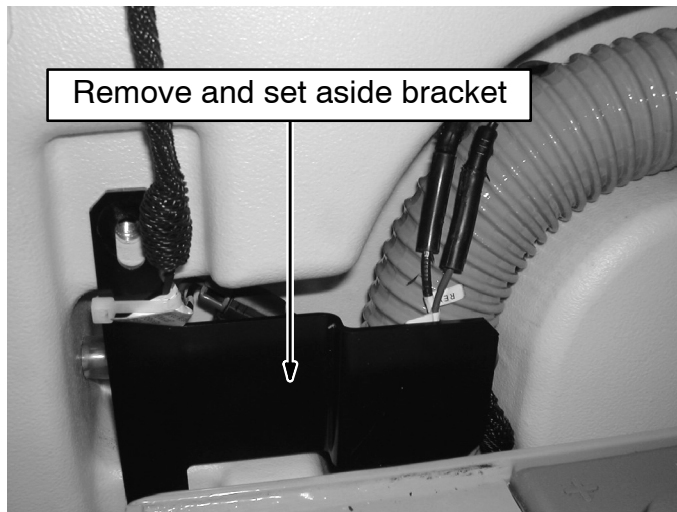

FIG. 3
4. Locate the hose that routes from the Y-fitting to the recovery tank. Remove and set aside the 13 mm bolts from the bracket holding the hose to the inside wall of the recovery tank. Cut the cable ties holding the hose to the other cables. Note the hose route, and remove it from underneath the machine. (Refer to FIG. 3)